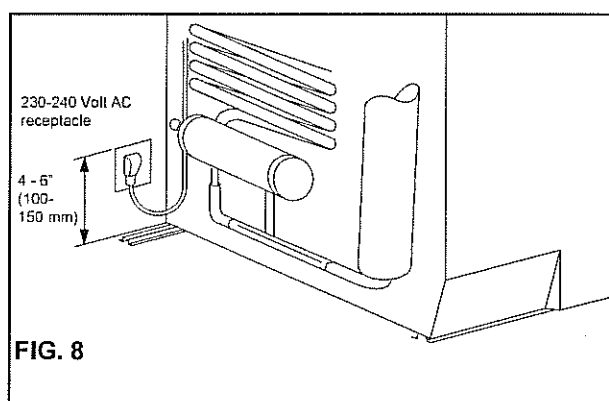

FIG. 8
The refrigerator is equipped with a three-prong (grounded) plug for protection against shock hazards and should be plugged directly into a properly grounded three-prong receptacle. DO NOT cut or remove the grounding prong from this plug. The free length of the cord is 6 ft. (1,8 m) and therefore recommended that the receptacle be located to the left side of the refrigerator (viewed from the rear) and approximately 4-6 inches (100-150 mm) from the floor (see FIG. 8). This allows easy accessibility through the vent door.
1. Check to be sure that the power cord is properly connected to the power supply. (See FIG. 8).